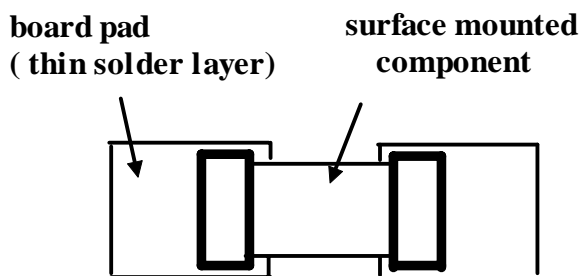

Figure 1: Illustrating surface mounted component on a board.
Soldering Surface Mounted Components: Now consider soldering a surface mounted (SM) component, a resistor or capacitor, to a board. The board will have a solder pad or tab for each end of the SM component to rest. This is indicated in Figure 1.